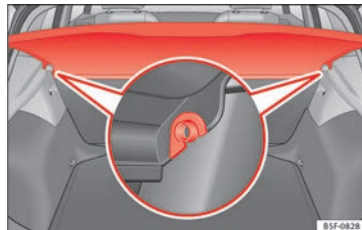

Fig. 160 In the luggage compartment: removing and installing the rear shelf. »
- Remove the shelf from the side supports » Fig. 160 pulling it up and out.
- Insert the rear shelf horizontally so that it coincides with the "plate" on the axis of the supports » Fig. 160 and press down until it clicks into place.